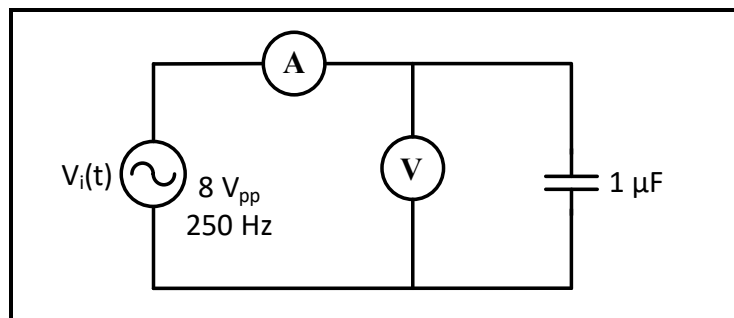

Figure 7.8
2. Connect the circuit in Figure 7.8, set V_{in} to sinusoidal voltage at $8 V_{PP}$, $f = 250$ Hz.
- a. Repeat steps (a) and (b) in (1) for the circuit in Figure 7.8 record results in Table 7.2.